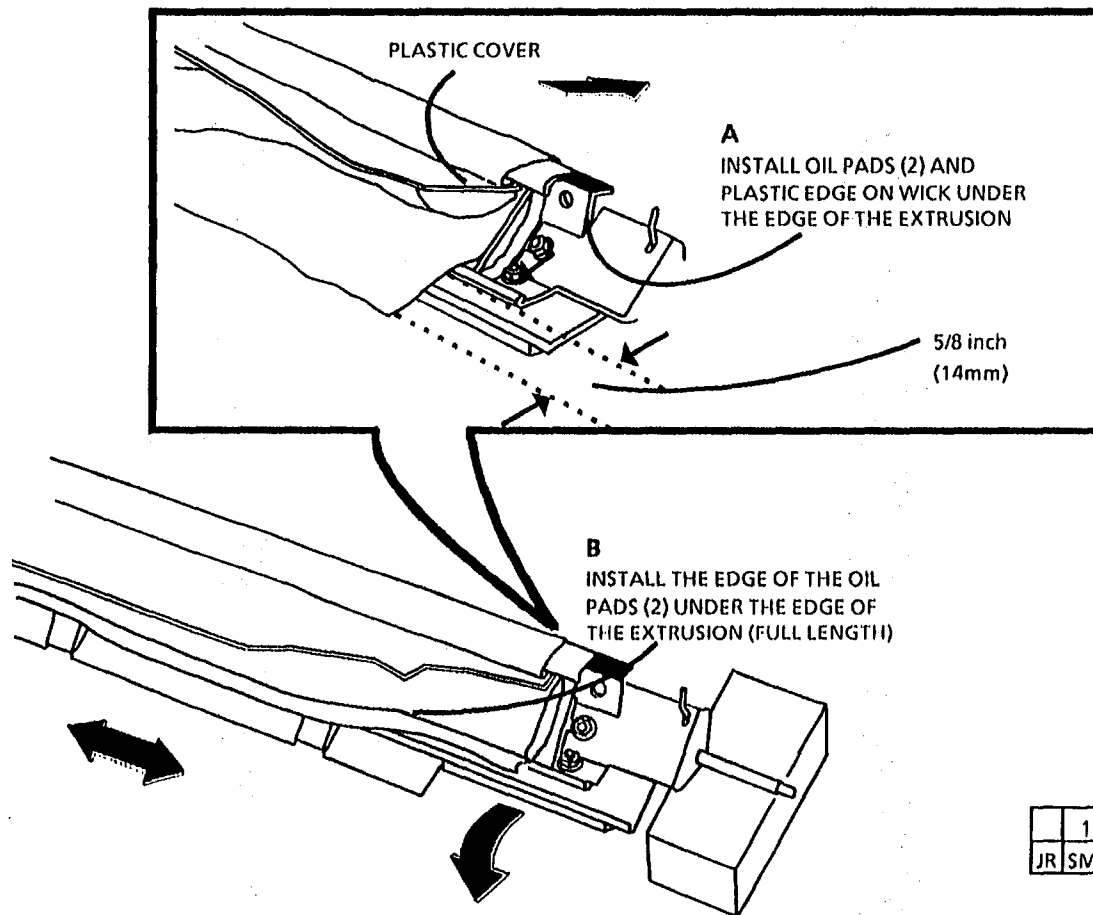

Figure 4. Install the new Oil Pads
2. (figure 4): Install the oil pads.